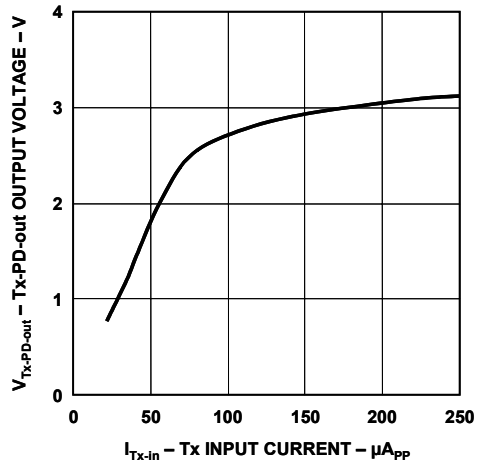
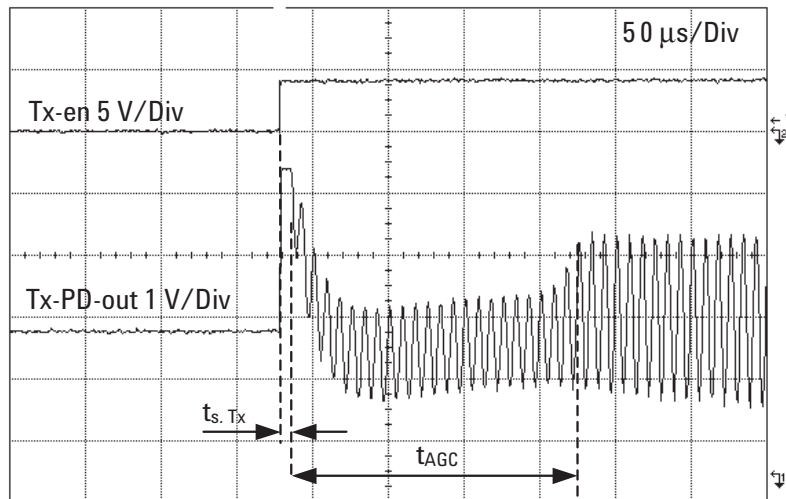

Figure 8. Tx-PD-out output voltage vs. Tx-in input current.
Figure 26. Tx-PD-out AGC response time.
1. Time from transmit is enabled (V_{Tx-en} is set to logic high) until output (Tx-PD-out) is available. See Figure 26 in the Application Information section.
2. Time from output (Tx-PD-out) is available until Tx-PD-out signal reaches 66% of its steady state level. See Figure 26 in the Application Information section.
variations in the optical channel over temperature and time. The Tx-PD-out output signal is effectively stabilized for input Tx-in signals of between $150 \mu\text{A}_{\text{PP}}$ and $250 \mu\text{A}_{\text{PP}}$ (see Figure 8). The AGC circuit starts to function $10 \mu\text{s}$ after the Tx-en signal is set to logic high. After a period of $180 \mu\text{s}$ the Tx-PD-out signal typically reaches 66% of its steady state level (see Figure 26). To ensure correct operation of the internal circuitry, an external $1 \mu\text{F}$ capacitor needs to be connected from pin 11 to GND2.